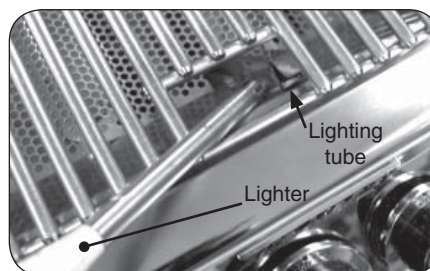

Fig. 19-2 - Manual lighting
2. Insert either a burning long-barrel butane lighter or a burning long-stem match through the cooking grid opening to the top of the lighting tube. (Fig. 19-2). For backburners, hold the flame against the perforated material of the backburner. For sideburners, hold the flame against the burner.
4. If the burner does not light, **immediately depress the knob and turn the valve to OFF**. **WAIT FIVE (5) MINUTES** before repeating steps 2 through 4 of the MANUAL LIGHTING instructions.